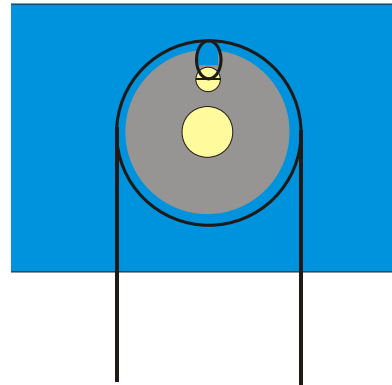

Fig. 8 Schematic illustration of how the thread is wound around the pulley of the displacement sensor (U11371)
- Loosen the screw on the displacement sensor's pulley. Wind a thread once around the pulley and lead it out of the recess placing a loop around the screw. Use the screw to fix the thread in place (see Fig. 8).